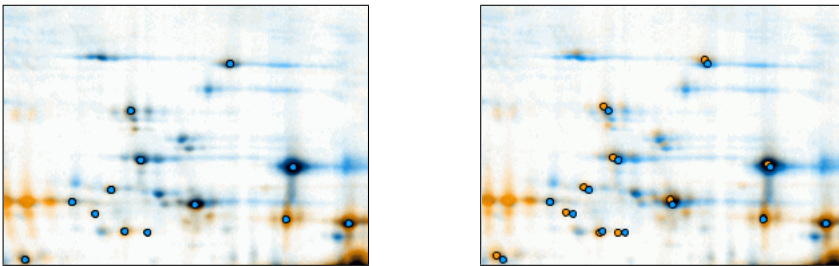

Figure 5.20.: An image region with well-aligned spots after exact warp (left image) in comparison to the same region after global warp (right image).
- 🔍 **Exact Warp mode** All spots that are connected by a match vector will be perfectly overlaid after warping. Other spots will be warped according to match vectors in their neighborhood (see fig. 5.18 on page 81 for an illustration). The difference to the global warp can be seen in fig. 5.20 on page 83.